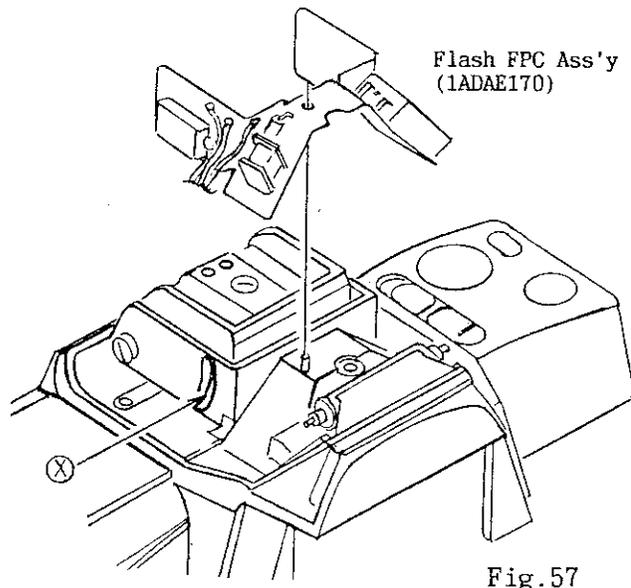

Fig.57
- a) Take care that Double Stick Tape on the Flash FPC Ass'y does not interfere with the hole shown with (X) on the Top Cover. (See Fig. 57)